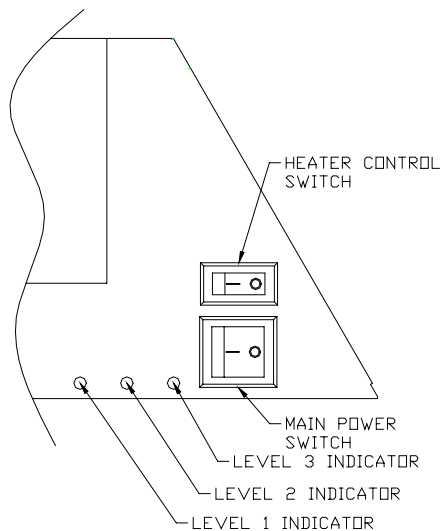

FIGURE 3
3. Locate manual controls refer to FIGURE 3.
The fireplace can also be controlled in a similar manner to the remote control with switches located on the fireplace (FIGURE3).
The heater on this fireplace is protected with a safety device to prevent overheating. Should the heater overheat, an automatic cut out will turn the heater off and it will not come back on without being reset. It can be reset by switching the Main Power switch (FIGURE 3) to OFF and waiting 5 minutes before switching it to ON. The remote control will need to be re-initialized (see page 2)